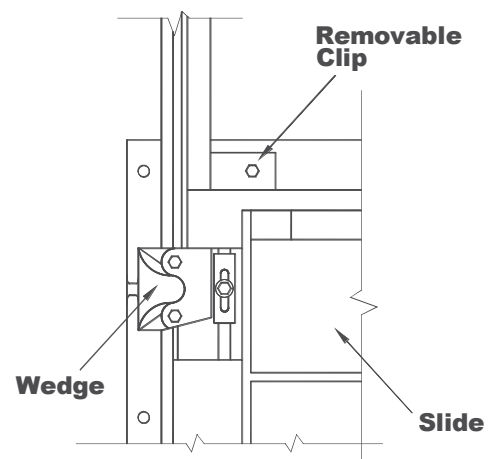

Figure 8
4. The gate is shipped with a steel clip or clips attached to the frame at the top corner of the slide (**Figure 8**), which held the slide closed during shipment. The clip(s) should now be removed and discarded.